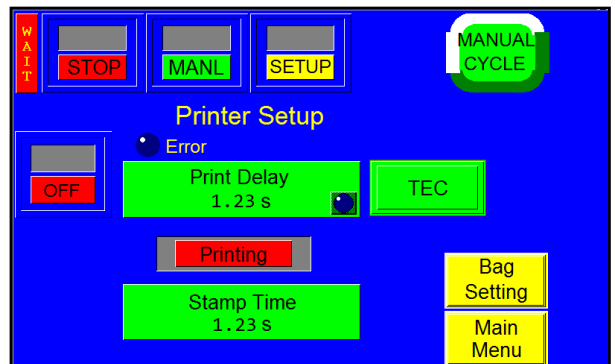

Figure 3-30
The Thermal Inline Transfer Printer - prints text, graphics, and bar codes, formatted in a separate software program. The label formats are "downloaded" to the printer from a PC. To enable Printer operation on the Thermal Transfer (TT) Printer, press the highlighted <Printer Ti-1000> button. Toggle <ON> to enable operation of the printer. See Figure 3-30.